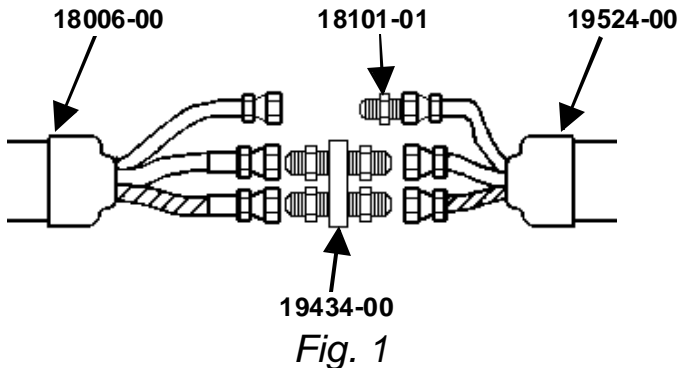

Fig. 1
1. Connect Whip Hose, P/N 18006-00 to Hose assembly, P/N 19524-00 using Hose Union assembly, P/N 19434-00 and Air Line Fitting, P/N 18101-01. (see Fig. 1)